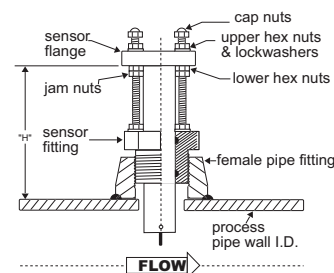

Fig. 7
- Thread upper hex nuts with lock washers until they contact the sensor flange and tighten. Check for proper "H" dimension and readjust if necessary. (Fig. 7)